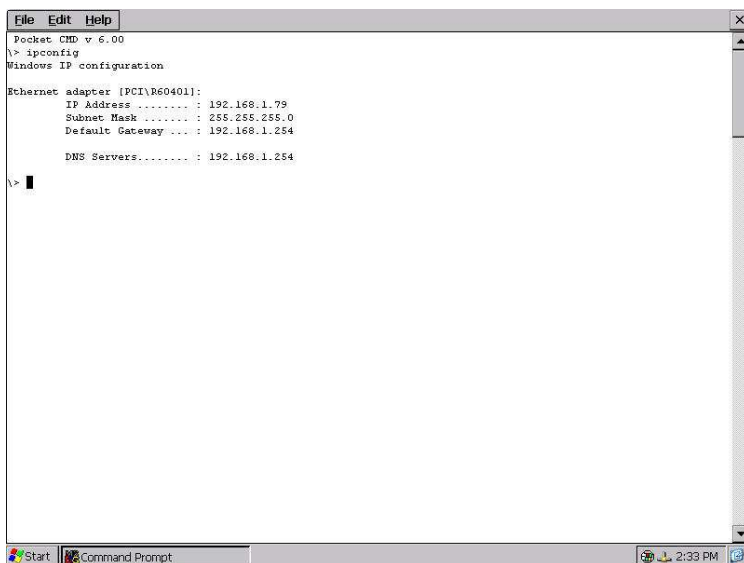

Fig. 37 - CE 6.0 console command window showing the IP address information
- From within the console command window, type **IpConfig** to show the IP address for the SBC, as shown in Figure 37.